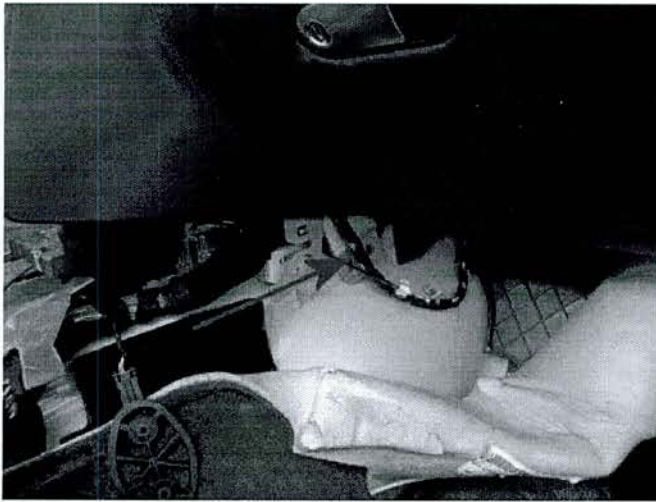

Figure 8
17. To improve access at the air bag control module remove the upper and lower retaining bolts secure the right hand support bracket for the instrument panel (see Figure 8)